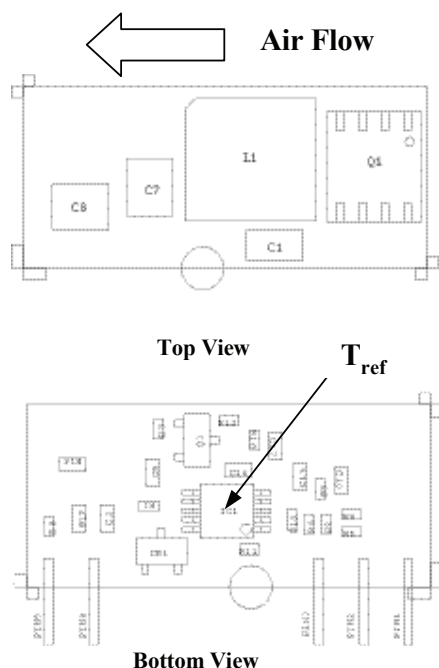
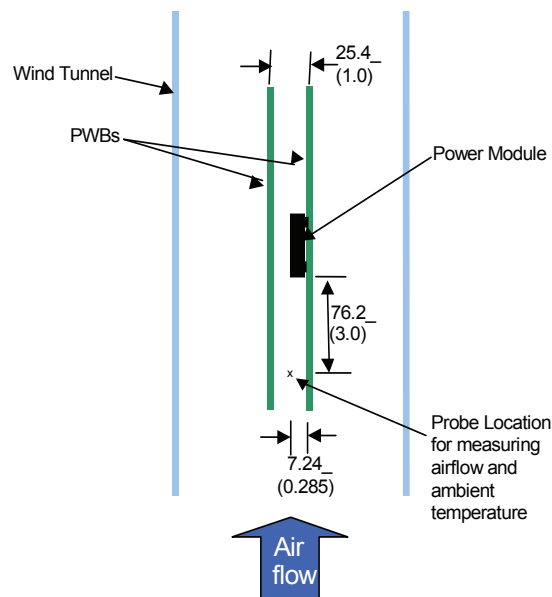

Figure 32. T_{ref} Temperature measurement location.
Figure 33. Thermal Test Set-up.
Considerations include ambient temperature, airflow, module power dissipation, and the need for increased reliability. A reduction in the operating temperature of the module will result in an increase in reliability. The thermal data presented here is based on physical measurements taken in a wind tunnel. The test set-up is shown in Figure 33. Note that the airflow is parallel to the long axis of the module as shown in figure 32. The derating data applies to airflow in either direction of the module's long axis.
The thermal reference point, $T_{ref 1}$ used in the specifications of thermal derating curves is shown in Figure 32. For reliable operation this temperature should not exceed 125°C.